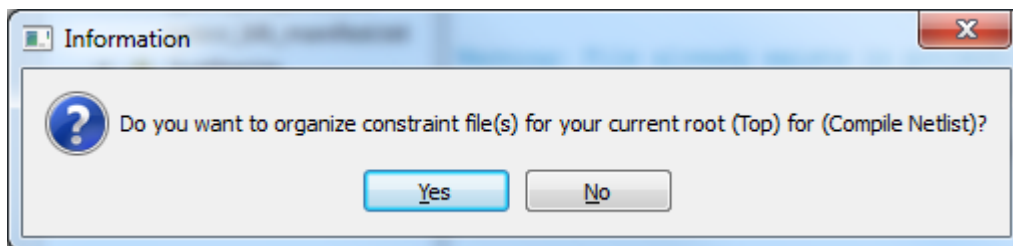

Figure 35 Information Window After Importing the PDC Constraint File
3. Click **Yes** in Information window, as shown in Figure 35.